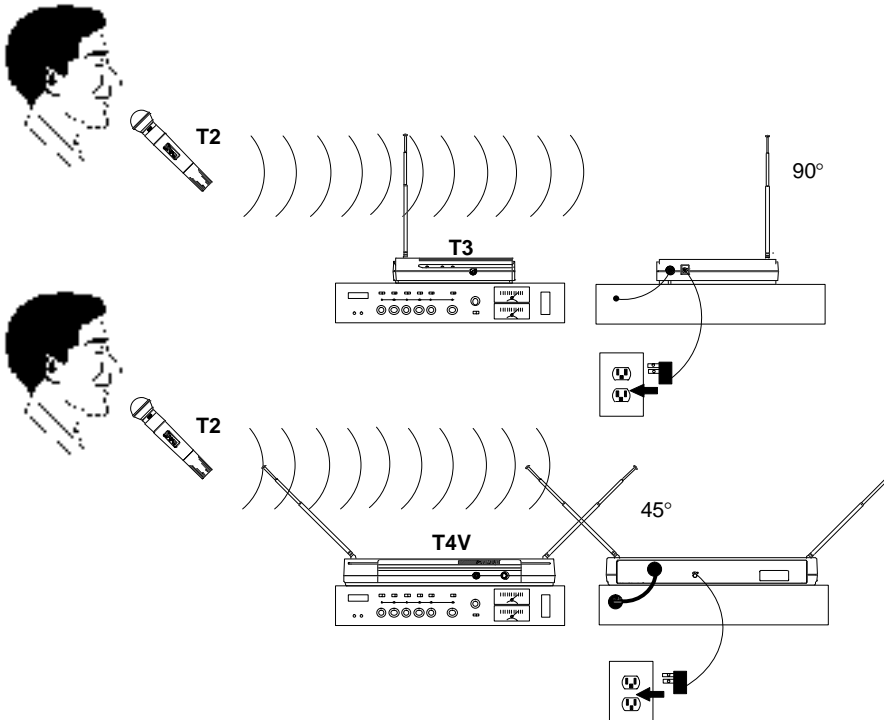

FIGURE 9
1. Refer to Figure 9. Plug one end of the ac power adapter into the DC INPUT connector in back of the receiver, and plug the other end into an ac power source (use PS20 for 105–125 Vac, 60 Hz power; use PS20E for 230 Vac, 50 Hz power). The green POWER light on the receiver will glow.
4. Press the attached WL93 lavalier microphone into the mounting clip and attach it to your garment. Do not cover the microphone with your clothing, and keep it approximately 8 to 12 inches below your chin. See Figure 9.